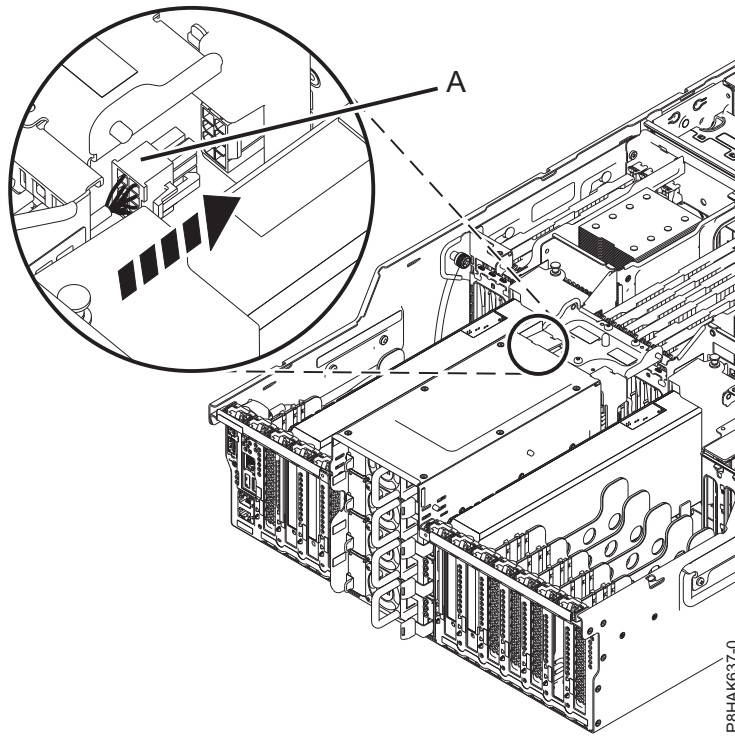

Figure 41. Connecting the power cords for the GPU adapter PCIe adapter in the 8247-42L system
6. If you are installing or replacing the PCIe gen3 x16 GPU adapter (FC EC47 or EC4B) in an 8247-42L system, connect the auxiliary power cable (**A**) to its connectors on the system backplane, as shown in Figure 41 on page 44. If you are installing or replacing any other adapter, go to the next step.